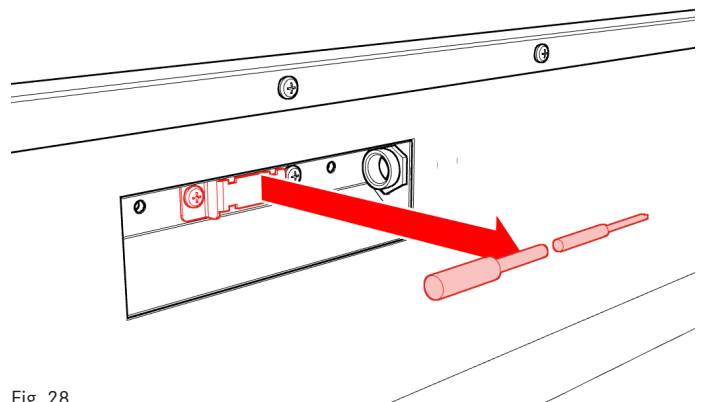

Fig. 28
4. Cut wire ties fastening air temperature sensor to bracket within sensor module. Pull sensor away from module to remove (Fig. 28).